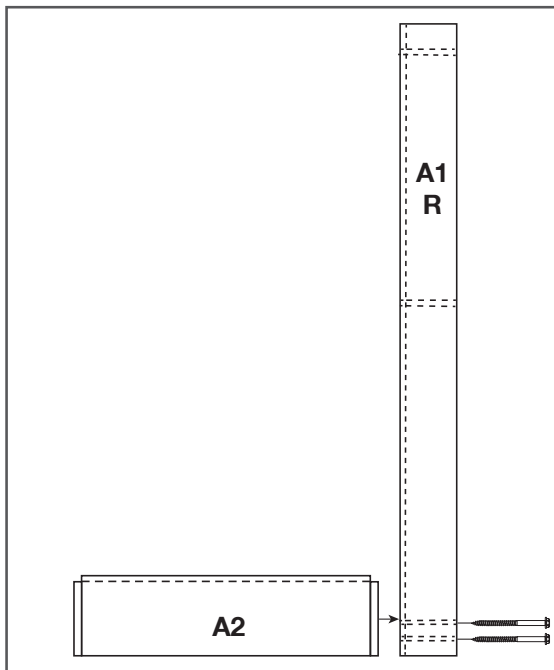

Figure 1
1. Using a rubber mallet, gently tap the lower rail (A2) into the bottom of the right stile rail (A1R) . Attach the bottom rail to the side stile using a socket wrench with a 7/16" socket and two lag screws (D) (Figure 1).